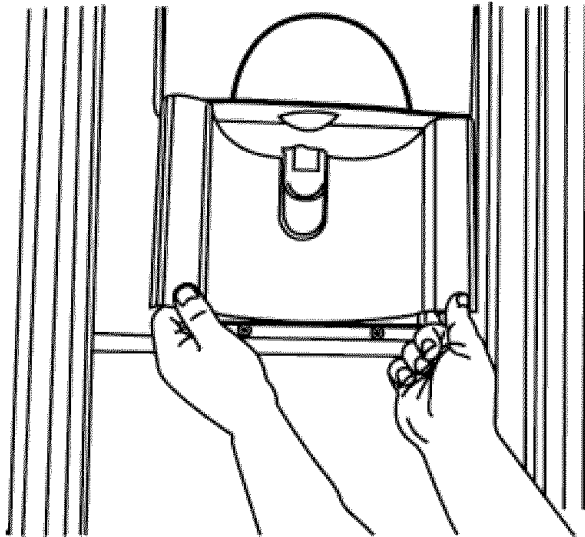

Figure 3
4. Remove the fountain liner (see figure 3).